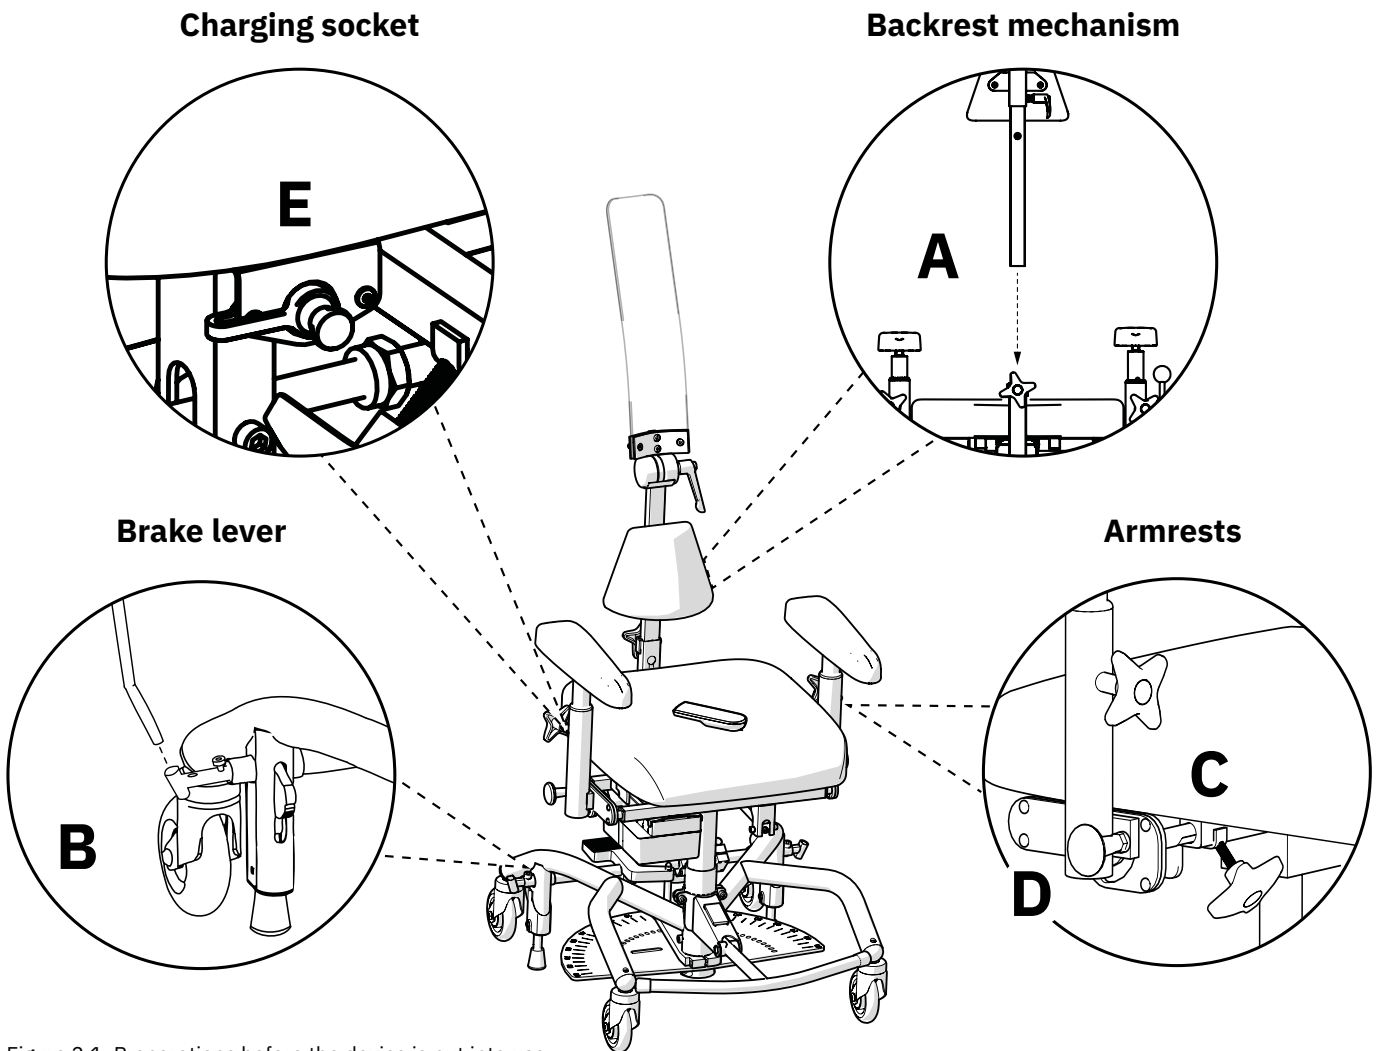

Figure 2.1. Preparations before the device is put into use.
Place the back rest support post in the back rest mechanism (B) and set the desired height level, see Figure 2.1. Tighten all levers (A). The picture shows one of the two standard back supports that come with the device. For adjusting back supports and backrest mechanisms, see 5.6. Backrest mechanism and back support.
We recommend that the brake lever not be mounted if you intend to use the foot brake. If you intend to use the handbrake function, mount the brake lever as follows: Insert the brake lever into the brake lever bracket (B) (see Figure 2.1). The brake lever can be placed on the right or left side.
Loosen the armrest controls (C) and set the desired height and width levels, see Figure 2.1. Tighten all controls (C). Make sure the knob (D) clicks into the locking position when the armrest is lowered. If the knob does not click in position, rotate the knob until it clicks firmly.
Before initial use, activate and charge the battery. This is done by connecting the battery charger to the device's charging socket and to a wall outlet (E), see Figure 2.1. The charging socket can be placed in different places on the device. The device is usually delivered with the charging socket mounted at the rear edge under the seat.